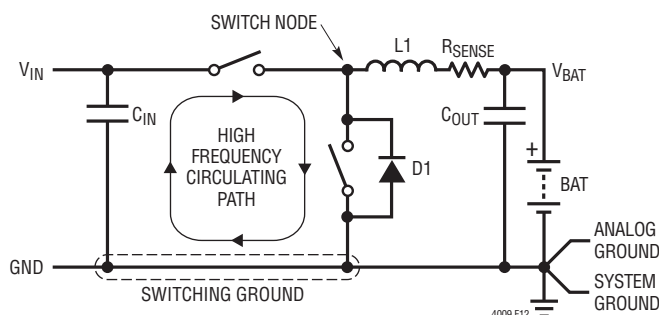

Figure 12. High Speed Switching Path
To prevent magnetic and electrical field radiation and high frequency resonant problems, proper layout of the components connected to the LTC4009 is essential. Refer to Figure 12. For maximum efficiency, the switch node rise and fall times should be minimized. The following PCB design priority list will help insure proper topology. Layout the PCB using this specific order.
- To prevent magnetic and electrical field radiation and high frequency resonant problems, proper layout of the components connected to the LTC4009 is essential. Refer to Figure 12. For maximum efficiency, the switch node rise and fall times should be minimized. The following PCB design priority list will help insure proper topology. Layout the PCB using this specific order.